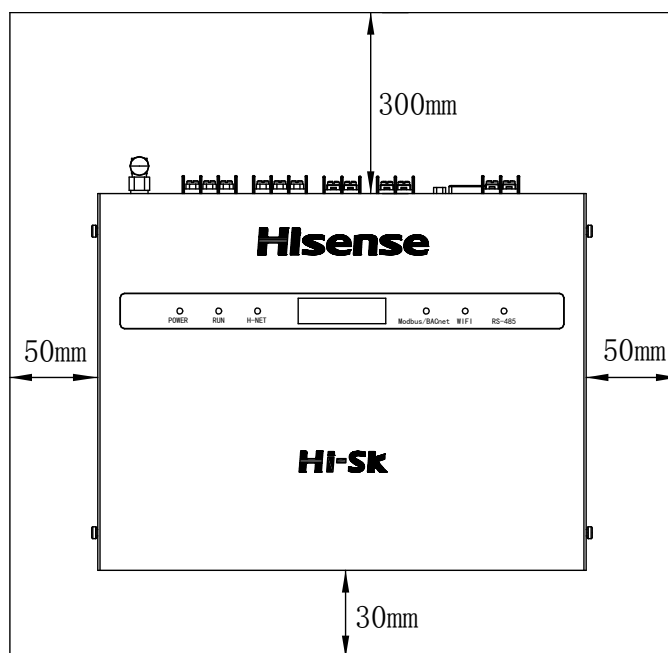

Figure 2.1 Maintenance space
- (a) As shown in Figure 2.1, ensure maintenance space.